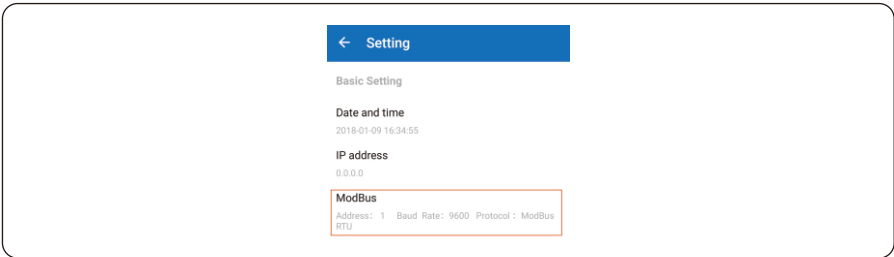

Figure 5.23 Check the Modbus address
Step 3 Check the Modbus address in Figure 5.23, the default address is 1, long click to revise the address and save it, the inverter at same RS485 bus must be set a unique address.